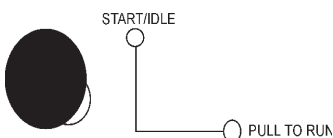

Figure 40. Engine Throttle Control Lever (low)
- Turn and push the engine throttle control lever (Figure 40) to 'Low'.